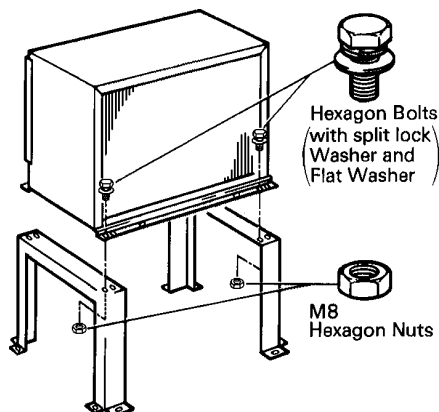

Fig. 7
- 1) Secure the Legs to the condenser unit with eight M8 x 16 mm. Hexagon Bolts and M8 Nuts as shown in the illustration. See Fig. 7.